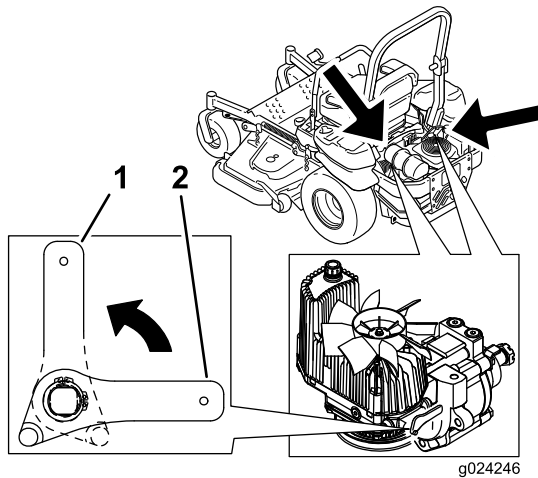

Figure 42
3. Rotate the release-valve levers vertically to push the machine (Figure 42).
5. Rotate the release valve levers horizontally to run the machine (Figure 42).